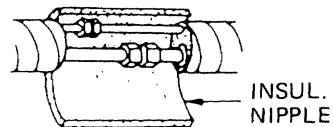

Fig. 30
3. After performing a leak test on the connecting part, insulate it with INSUL. NIPPLE and finish with a vinyl masking tape over it. Fig. 30